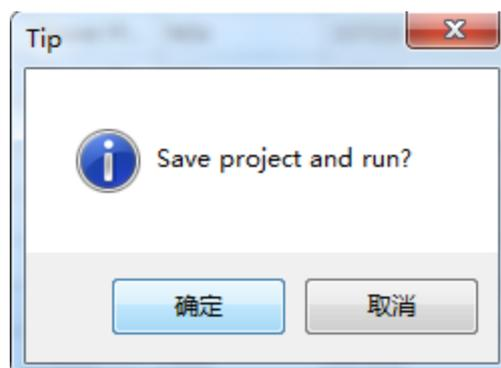

Fig. 14 Save project and run
- Click **Run** button and Fig. 14 will appear ,choose **yes** to run the program.